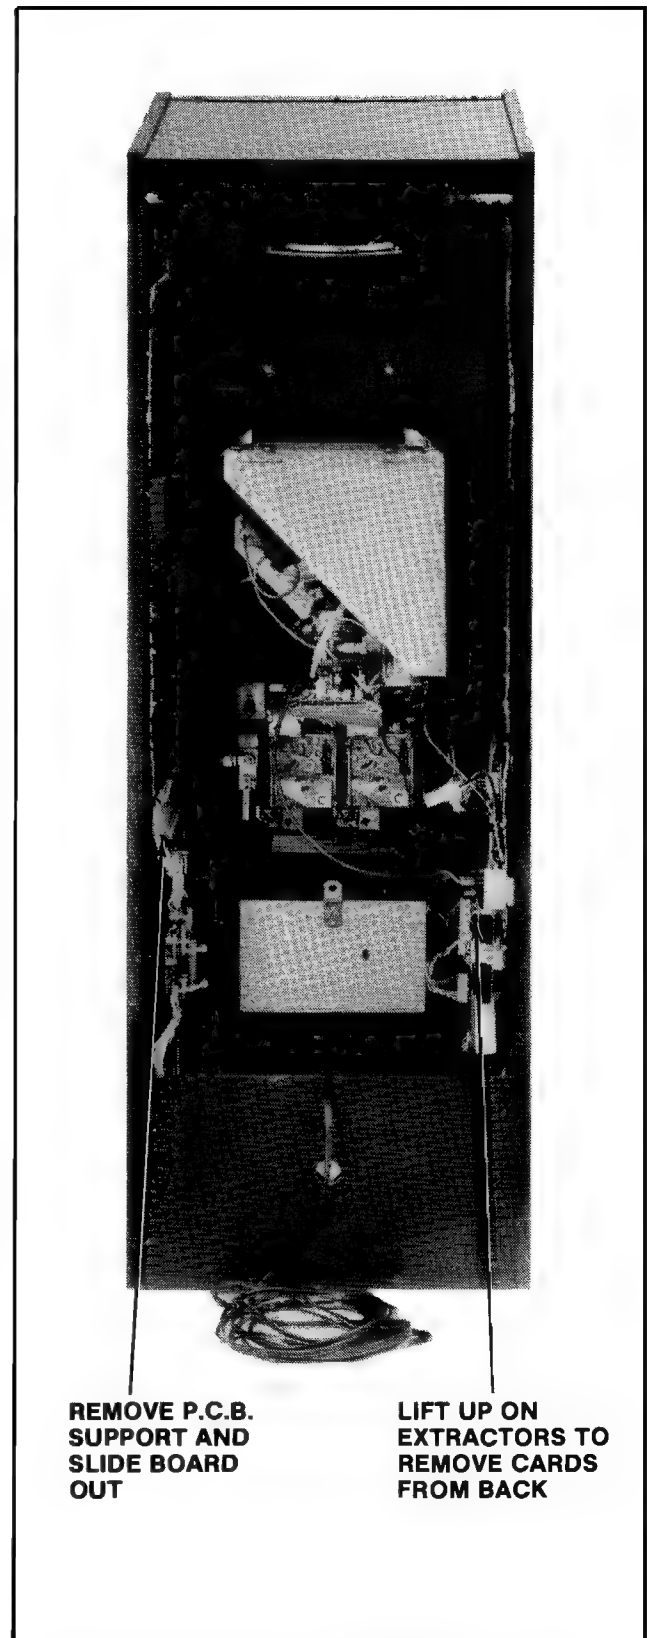

Figure 2-22 Removing P.C.B.'s - Mini
2.8.2 MINI MODEL: (See Figure 2-22)
- ☐ Disconnect the power supply board from its cabling, remove the P.C.B. supports indicated in Figure 2-22 and slide it out the back of the cabinet.